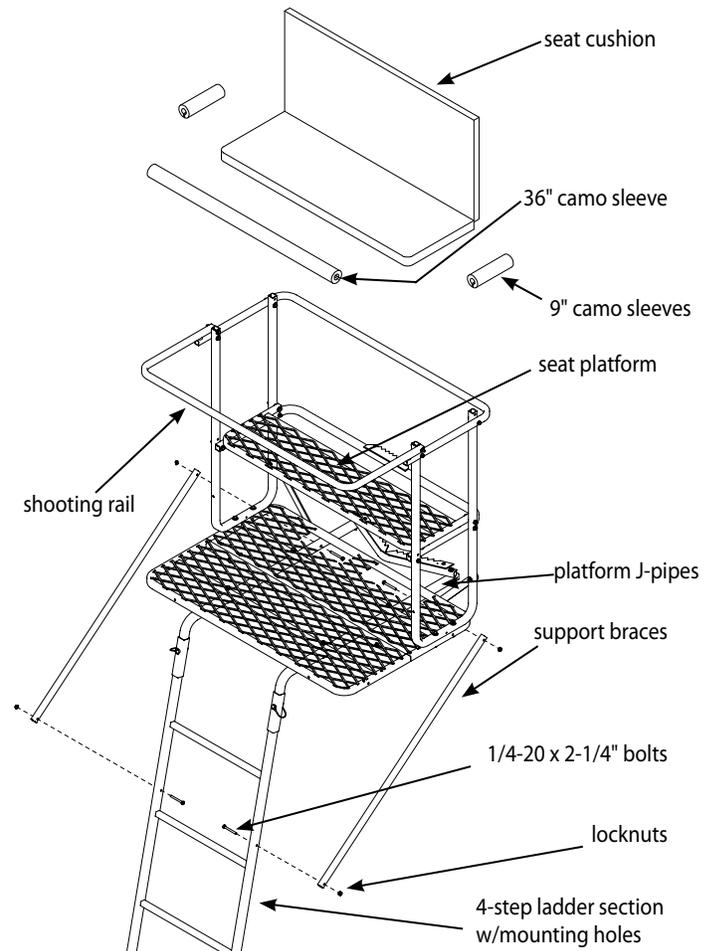
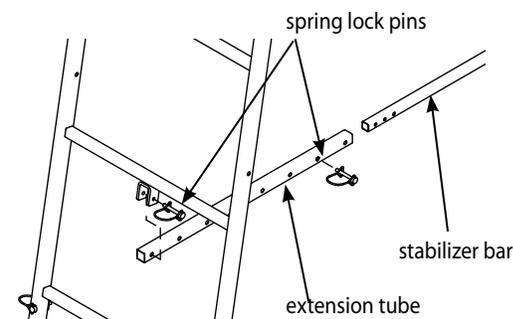

Figure 8
Figure 9
12. Attach the (2) support braces (2ML46) to the outside of platform J-pipes and 4-step ladder section with mounting holes using (4) provided 1/4-20 x 2-1/4" bolts, and locknuts. **SEE FIGURE 8. You must now tighten all nut & bolt assemblies. Be sure not to over tighten or crush tubing when tightening!**
- b. Attach (2) provided 9" and (1) 36" camo foam sleeves to the backrest rail (armrest) and shooting rail by simply wrapping around square tubing and attaching Velcro together.
- a. Attach the stabilizer bar extension tube (1ML23) to the second ladder section mounting bracket using (1) provided spring lock pin. **SEE FIGURE 9.**
- b. Slide the stabilizer bar (L17) into the extension tube and attach the two pieces together using (1) provided spring lock pin. Spring lock pin must go through both the extension tube and the stabilizer bar at appropriate hole to achieve desired distance from tree. Adjustment in length may be needed when ladder is uprighted later in instructions. **SEE FIGURE 9.**